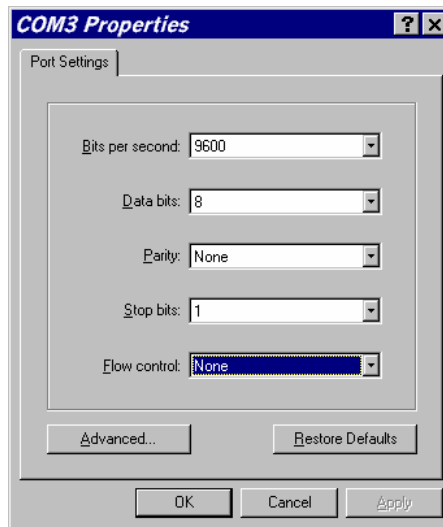

Figure 6-3: COM3 Properties window
- In the next window, select the following as shown in Figure 6-3: Bits per Second: 9600; Data bits: 8; Parity: None; Stop bits: 1; Flow control: none. Click “OK”.